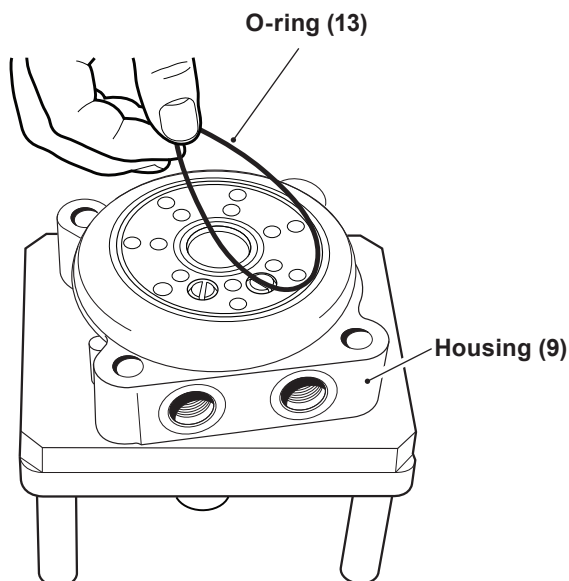

Figure 11, O-ring/Cardan Shaft
1. Mount seal (5), washer (4), and ball bearing (3) onto output shaft (7). See page 11.
2. Install check valves (11), needle bearing (12), output shaft assembly and retaining ring (2). See pages 12 - 14.
3. Turn motor housing (9) so that its rear end is upwards and install a new O-ring (13). See figure 11.